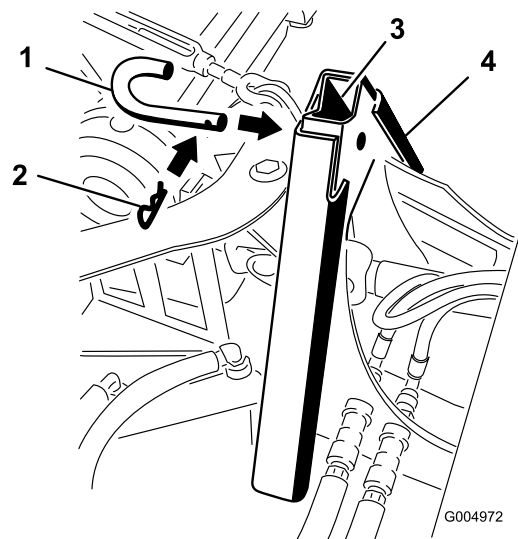

Figure 18
4. Secure the adapters together with the attachment pin and hairpin cotter as shown in Figure 18.